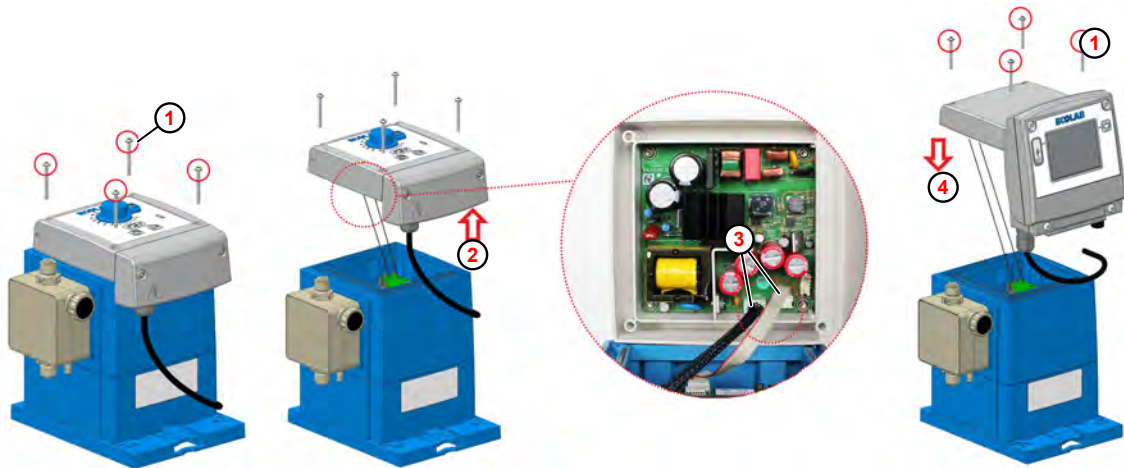

Fig. 33: Upgrade to EcoAdd
1. Loosen the screws ( Fig. 33 , ① ) on the **EcoUp** control unit using a Torx spanner (TX25).
2. Lift the control unit up and remove ② .
3. Remove both connectors ③ from the underside of the **EcoUp** control unit.